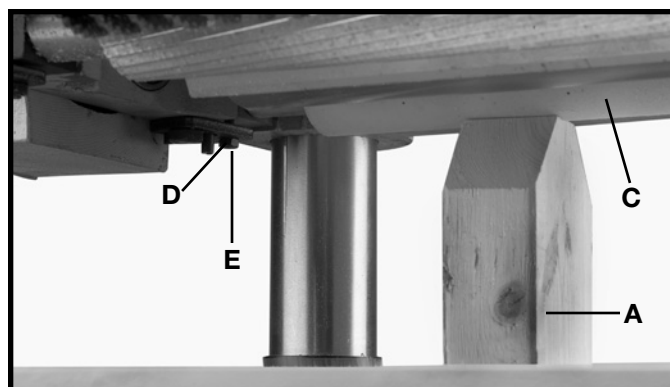

Fig. 45
3. Move the gage block (A) Fig. 45, minus the feeler gage, under the end of the outfeed roller (C). The bottom of the out-feed roller (C) should just touch the top of the gage block (A).
4. If the height of the outfeed roller must be adjusted, loosen nut (D) Fig. 45, and turn screw (E) until the outfeed roller is properly adjusted.